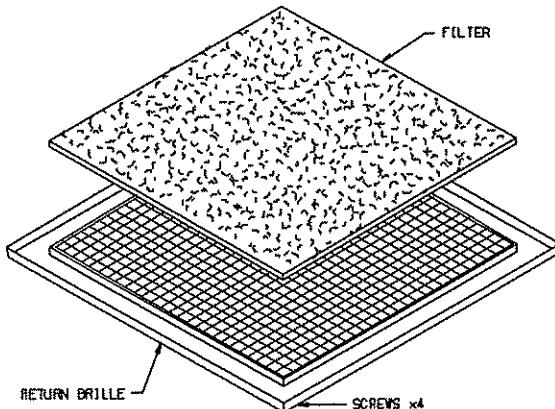

FIGURE 2
1. Disengage the two 1/4-turn fasteners that secure the ceiling assembly grille to the ceiling assembly (See Figure 2).